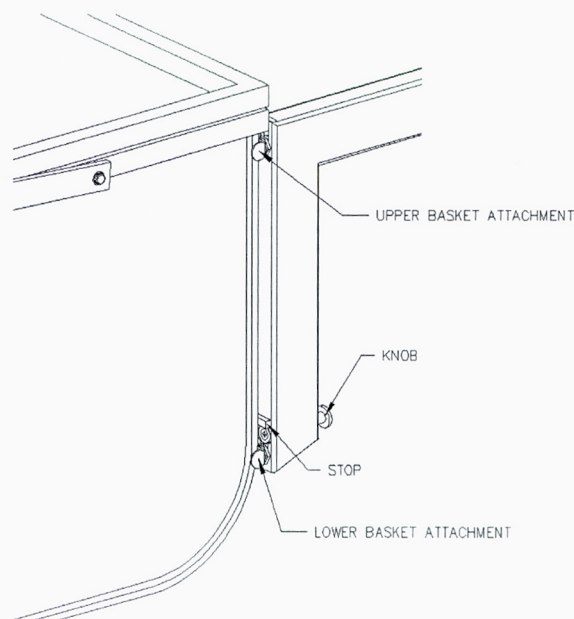

Figure 3 – Basket Attachment
1. Installation - Refer to Figure 3.
2. Removal - Refer to Figure 3.